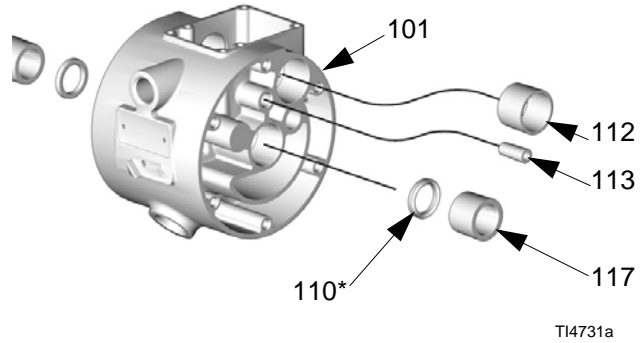

FIG. 24
4. With both fluid covers removed, using two 5/8 in. wrenches hold the wrench flats (Y) on the plates of each diaphragm assembly and loosen. One diaphragm assembly will come free and the other will remain attached to the shaft.
6. Remove plate (444) with bolt (143) installed, diaphragm (446), backer (447) if present, and plate (445).
8. Inspect the diaphragm shaft (121) for wear or scratches. If it is damaged, inspect the bearings (117) in place. If the bearings are damaged, refer to **Bearing and Air Gasket Removal** on page 28.
9. Reach into the center housing (101) with an o-ring pick and hook the u-cups (110), then pull them out of the housing. This can be done with the bearings (117) in place. See FIG. 24, page 28.
1. Install the shaft u-cup packings (110*) so the lips face **out** of the housing (101). Lubricate the packings. See FIG. 24, page 28.
2. Apply high-strength (red) thread locker to attach the bolt (446a) to the diaphragm (446), if needed. Assemble the air side plate (445) onto the diaphragm (446). The wide, radiused side of the plate must face the diaphragm. Apply medium-strength (blue) thread locker to the threads of the diaphragm assembly. Screw the assembly into the shaft (121) hand tight.
3. Grease the length and ends of the diaphragm shaft (121). Insert the shaft/diaphragm assembly into one side of the pump.
8. If you removed the diaphragm shaft bearings (117) reach into the center housing (101) with an o-ring pick and hook the u-cups (110), then pull them out of the housing. Inspect the u-cups. See FIG. 24. Replace parts as needed.